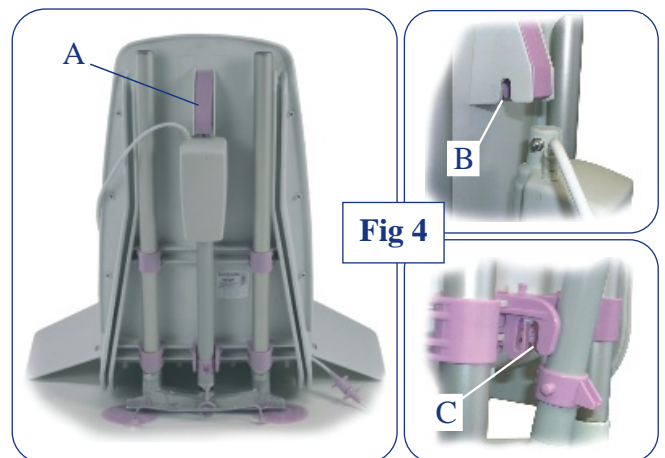

Fig 4
- Press the lower part of the latch at the back of the seat (A fig. 4) whilst lifting the seat sufficiently to allow the actuator to disengage itself from the slot in the latch (B fig.4) and the actuator locator bracket (C fig.4). The actuator can now be removed from the base section.